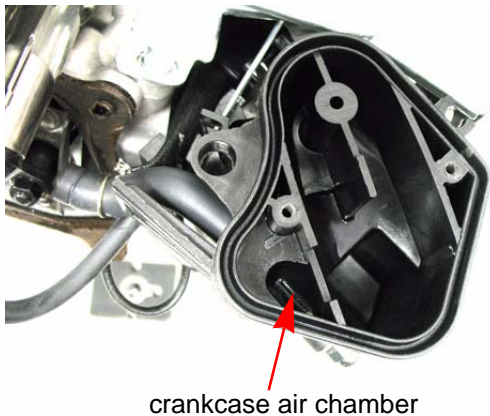

Figure 2.3
1. The PCV chamber is vented to the air filter through a molded rubber hose. The rubber hose directs crankcase fumes to a chamber within the air filter housing. See Figure 2.3.